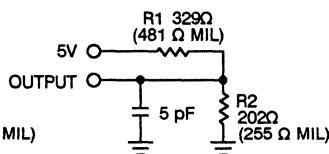

Figure 1b
- tHZCS and tHZWE are specified with CL = 5 pF as in Figure 1b. Transition is measured ±500 mV from steady state voltage.